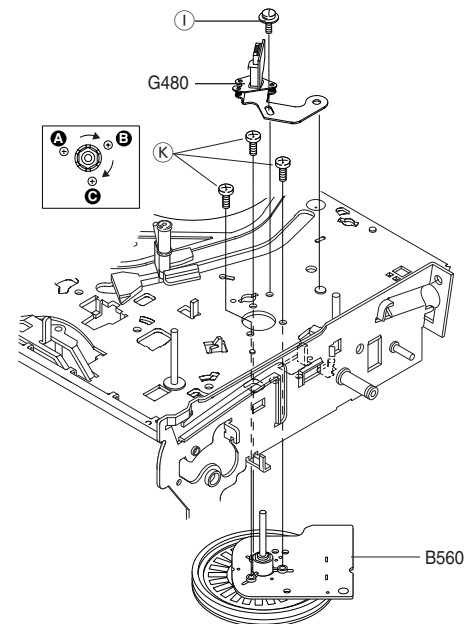

Fig. 8
- Undo the screw (I) (Fig. 8) then remove the AC combi head (G480). Reassembly is carried out in reverse order.
- Undo the 3 screws (K) (Fig. 8).
- Remove the capstan motor (B560, Fig. 8) from the drive mechanism. Make sure that the capstan does not touch greased parts of the drive mechanism.